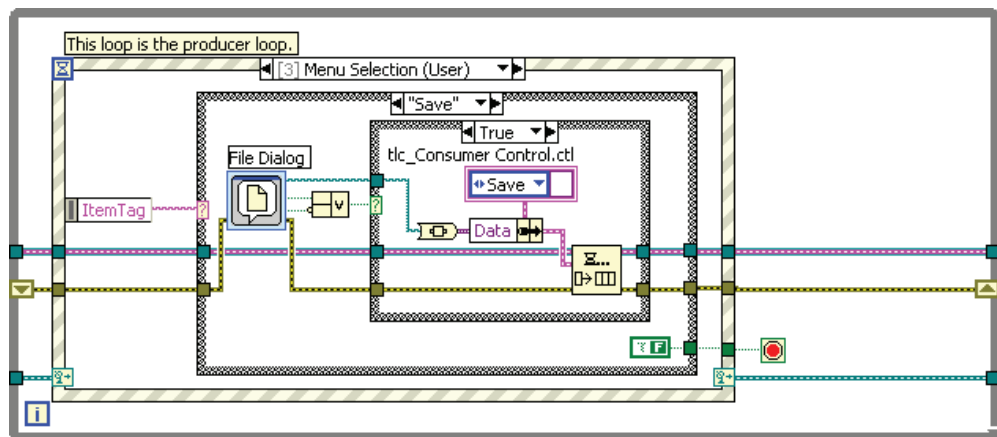

Figure 7-23. Producer Save Case True Case
3. Modify the Save case in the Menu Selection event of the producer loop, as shown in Figure 7-23. Use the following items: